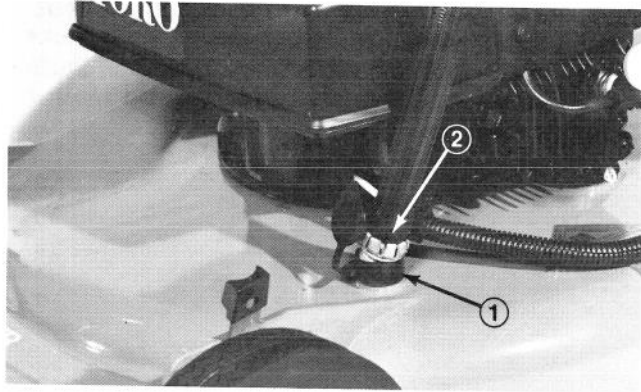

Figure 26
3. Start the engine. Insert end of hose, without nozzle, into wash-out port opening (Fig. 26). Using moderate water pressure, allow water and engine to run for approximately two minutes.